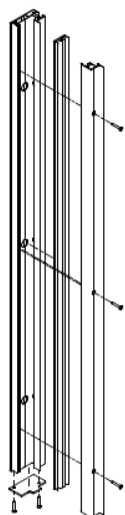

Fig. 2
8. Figures 2 and 3 show the sequence and assembly of the guide assembly components and their positioning relative to each other.